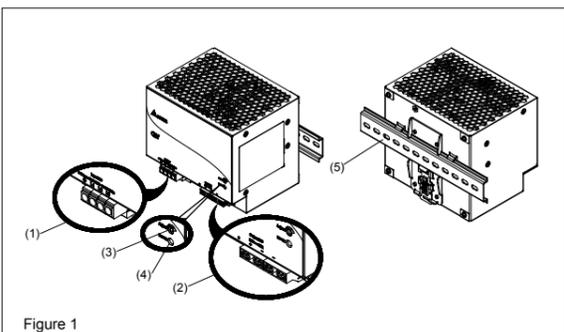
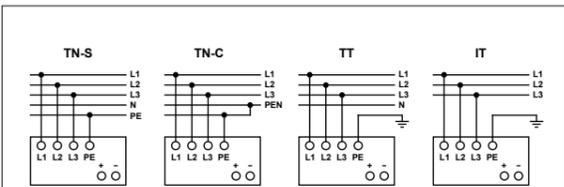

Figure 1
Figure 5
### 5.1. Input connection (Fig. 1, Fig. 5)
Use L1, L2, L3 and PE connections of input terminal connector (see Fig. 5) to establish the 3 x 400-500Vac connection. Fig. 5 shows the connection to the various network types.
### 5.2. Output connection (Fig. 1 (2))
Use the “+” and “-” screw connections to establish the 24Vdc connection. The output provides 24Vdc. The output voltage can be adjusted from 24 to 28Vdc on the potentiometer. The green LED DC OK displays correct function of the output (Fig. 1 (4)). The device has a short circuit and overload protection and an over voltage protection limited to 35Vdc.